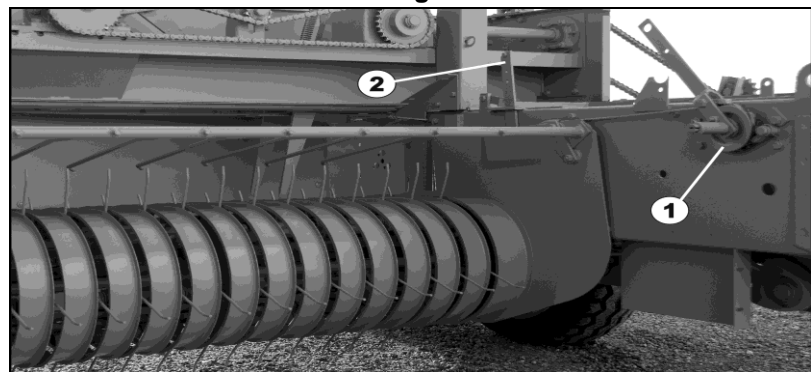

Fig. 5
2. Adjust the height from the ground of the pick-up in relation to the material to be collected and the type of soil on which the baler will operate by using ratchet 1 shown in figure 5 after releasing rod 2 shown in Fig. 5.